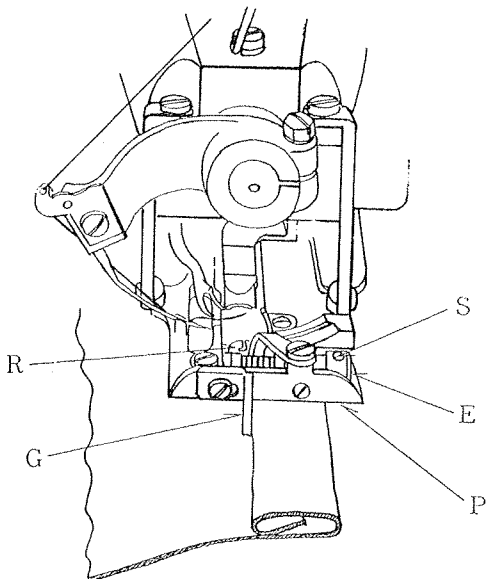

Fig. 3
Apply knee pressure to the knee lifter to separate the work arm from the head. Insert the work in the gap just opened in such a manner that the folded or sewn edge of the article is alongside the guide "G" of the presser foot "P" (See Fig. 3, below).
f. The Cloth Retainer "R" (Fig. 3, page 4) is to be set as close to the needle as possible. To adjust, loosen set screw "S" and turn eccentric "E". Eccentric "E" can be slid in and out for the purpose of centering the retainer above the rib which forms the material in preparation of the stitching.